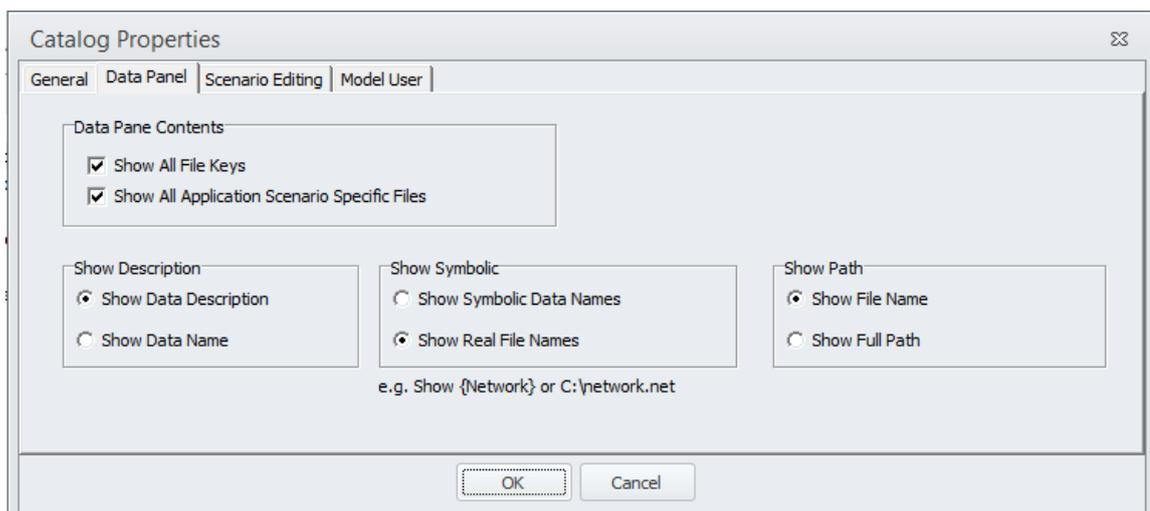

Figure 2 Setting of properties of the catalog file.
- 3) To set the properties of the catalog file, go to “Scenario” menu on the toolbar and select “Properties”. On the Catalog Properties window, select the “Model User” tab, and set the Model User as “Model Applier”. Under Model Applier section select "Developer" as shown in Figure 2